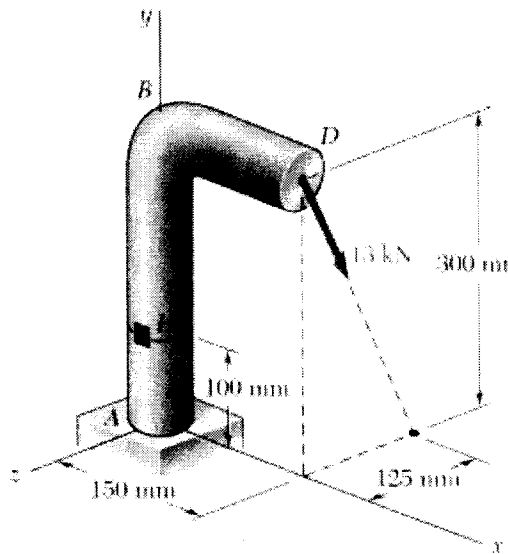

FIGURE Q6
- Q6** A 13 kN force is applied to the 60 mm diameter post ABD at D as shown in **Figure Q6**.